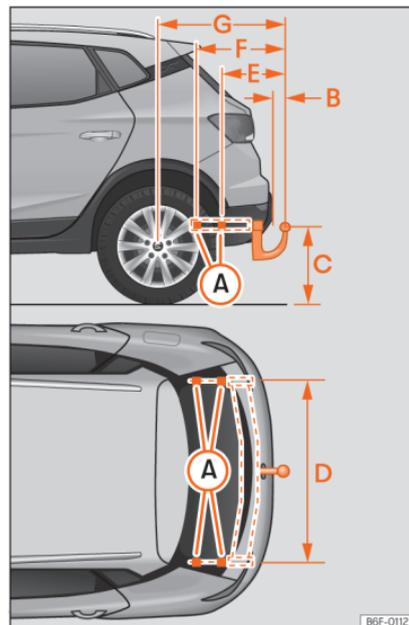

Fig. 185 Limits and attachment points for retrofitting a towing bracket.
The distance between the centre of the ball head and the road »» Fig. 185 (C) must never be less than that indicated. This also applies when the vehicle is fully loaded, including the technically permissible maximum vertical load on the coupling device.
Distance specifications »» Fig. 185: